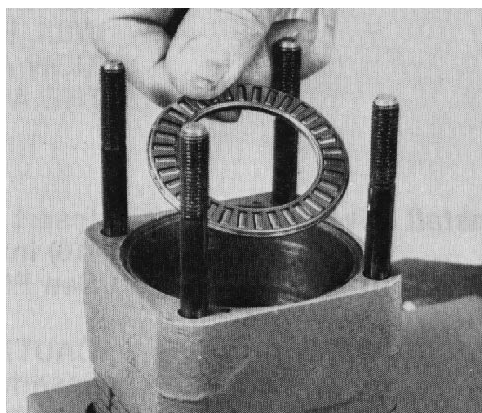

Figure 89
26. Lightly grease the roller thrust bearing and put it on the upper cover plate, inside the bearing spacer (Fig. 89).